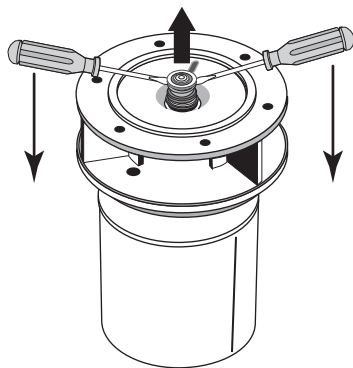

Figure 20
1. After unscrewing the impeller, carefully remove the rotating part of the seal by prying up on the sealing washer using two screwdrivers (Figure 20).